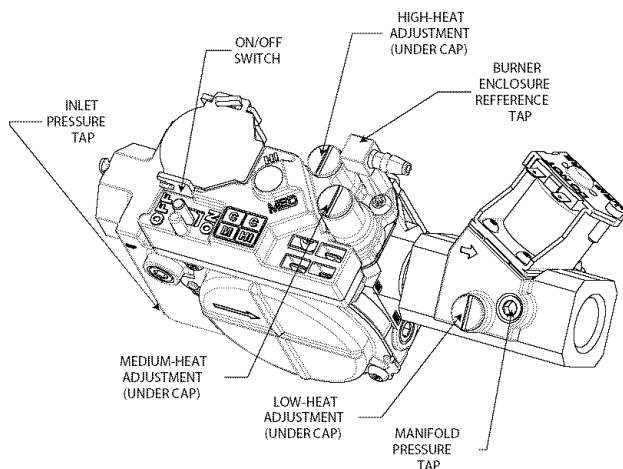
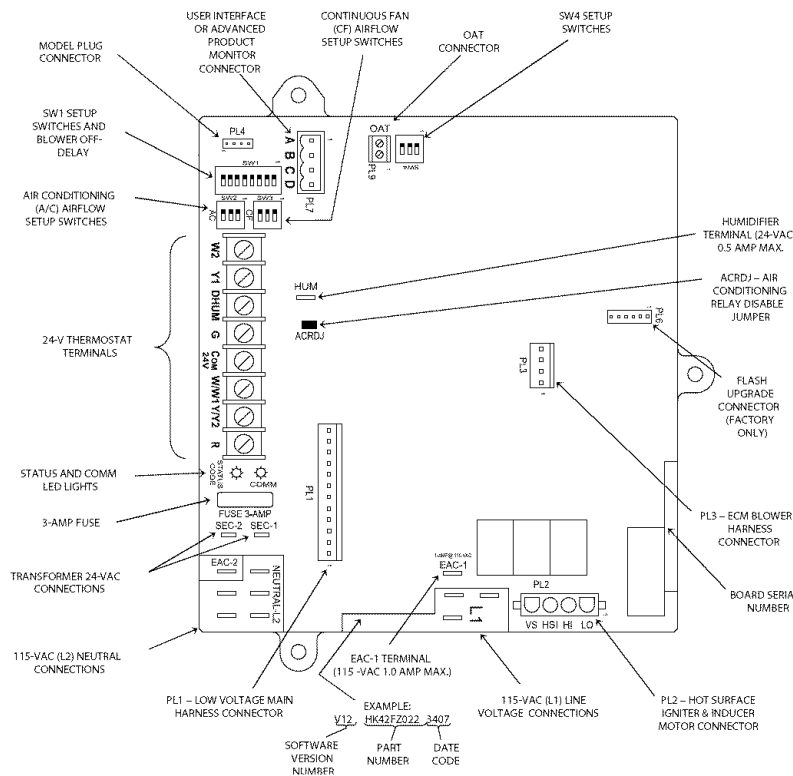

Fig. 9 - Redundant Automatic Gas Valve with Throttling Valve
Fig. 13 - Furnace Control
2. Remove caps that conceal adjustment screws for high-, medium-, and low-heat stage gas-valve regulators. (See Fig. 9.)
7. Turn high-heat stage adjusting screw clockwise (in) 13.5 full turns. This will increase the manifold pressure closer to the propane high-heat set point. (See Fig. 9.)
8. Turn medium-heat stage adjusting screw clockwise (in) 9.5 full turns. This will increase the manifold pressure closer to the propane medium-heat set point. (See Fig. 9.)
9. Turn low-heat stage adjusting screw (flat blade screwdriver screw) clockwise (in) the number of turns shown in Table 2. This will increase the manifold pressure closer to the propane low-heat set point. (See Fig. 9.)
2. Remove 1/8-in. pipe plug from inlet pressure tap on gas valve. (See Fig. 9.) DO NOT DISCARD PLUG!
5. Turn Setup Switch SW4-2 on furnace control ON (see Fig. 13)
2. Remove 1/8-in. pipe plug from manifold pressure tap on throttling valve. (See Fig. 9.)
1. Setup switch SW4-2 on control center should already be in the ON position. If not, put setup switch SW4-2 in the ON position. (See Fig. 13.) This keeps furnace locked in medium-heat operation.
2. Jumper R and W/W1 and R to W2 thermostat connections on furnace control. (See Fig. 13.) This keeps furnace locked in high-heat operation.
10. Wait for the blower to turn ON then check low-heat manifold pressure. Remove the low-heat adjustment cap (See Fig. 9) and turn the low-heat adjusting screw clockwise (in) to decrease manifold pressure or counterclockwise (out) to increase manifold pressure. You will only have 15 minutes to make an adjustment. If you need more time then move setup switch (SW1-2 on control center to ON position (See Fig. 13.)